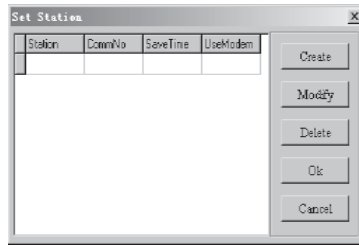
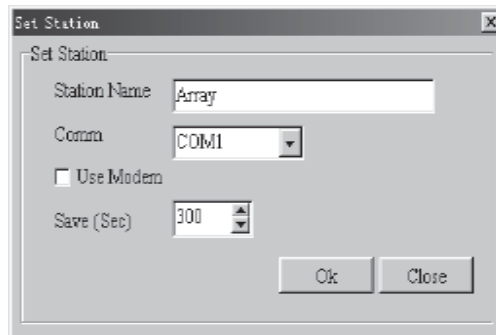
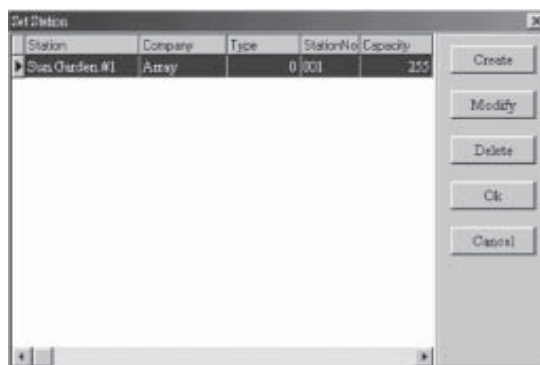

Fig. 4-2 Station Designing Dialogue Frame
Fig. 4-3 Station Setup Dialogue Frame
Fig. 4-4 Dialogue Frame for Definition and Modification of the Station name and Driving Methods
2. A station designing dialogue frame will automatically appear in the system, as show in Fig. 4-2.
3. If you design a station for the first time, please click ;°Append;±in the right of Fig. 4-2 to enter station setup dialogue frame as shown in Fig.4-3. If your system already has a designed station, only click ;°Modify” to modify the existing station and enter station setup dialogue frame. Or click;°Delete;±first to delete the existing station and then click ;°Append;± to enter station setup design frame.
4. In the dialogue frame as shown in Fig. 4-3, the Station Name and Comm must be entered and cannot be use repeatedly. When editing is completed, click OK and finish the setup of the Station Name and the Communcation Methods, then the tableau as shown in Fig. 4-4 will appear.